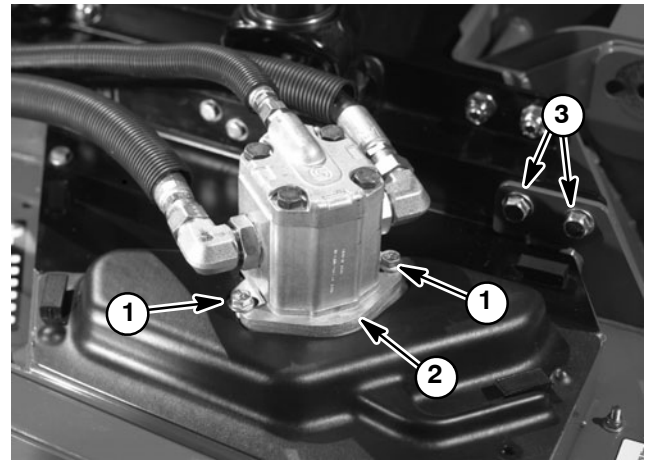

Figure 6
4. Remove eight flange head screws, flat washers and lock nuts that secure deck mount to cutting deck (Fig. 6).
4. Install deck mount to cutting deck with eight flange head screws, flat washers and lock nuts (Fig. 6). Tighten fasteners.